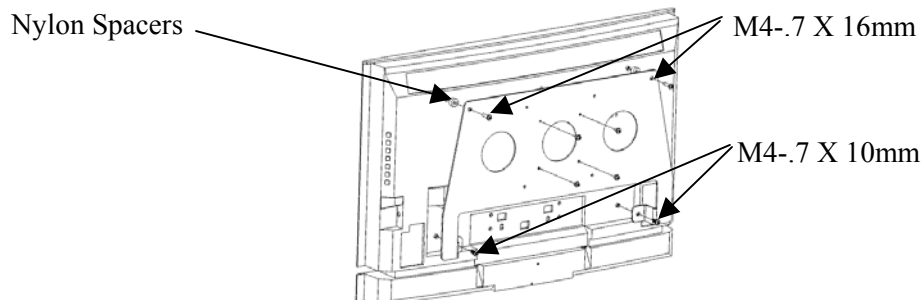

Figure 2
2. Using four slotted holes of interface bracket (see Figure 2), align interface bracket with four mounting holes in the back, outer corners of the display.